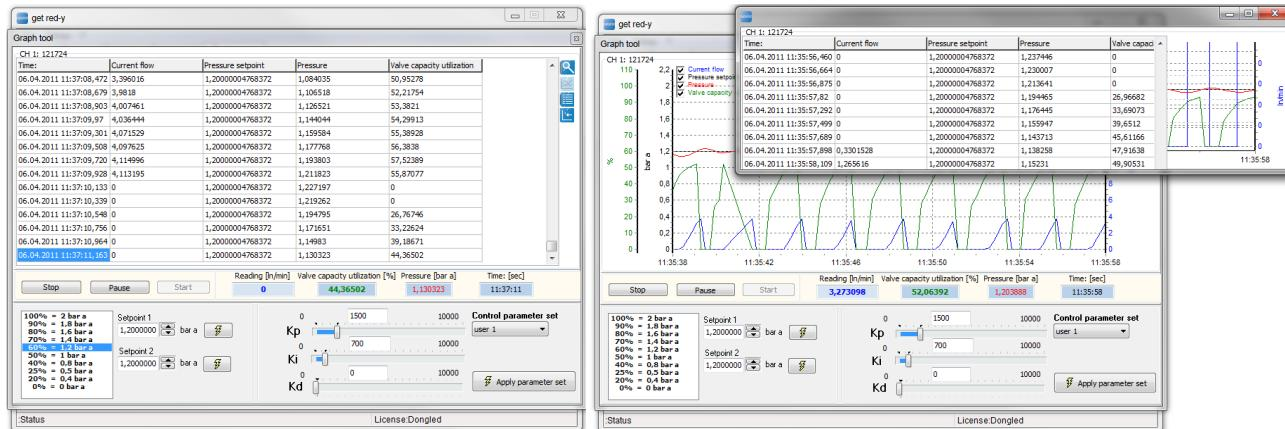

Figure 30: Representation of the measured values in tabular form (left) and representation of the data in separate windows (right).
- b. The data is represented in tabular form (see Figure 30).
- c. The data is represented in a separate window (see Figure 30 right). This is quite helpful if you have a second monitor or if you wish to show the data in one window as a table and in the other window as a diagram